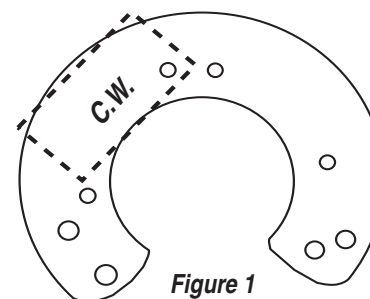

Figure 1
7. Determine the rotation of your distributor rotor and install Ignitor module onto adapter plate (See Figure 1 & 2). Secure the module with the provided screws and lock washers.